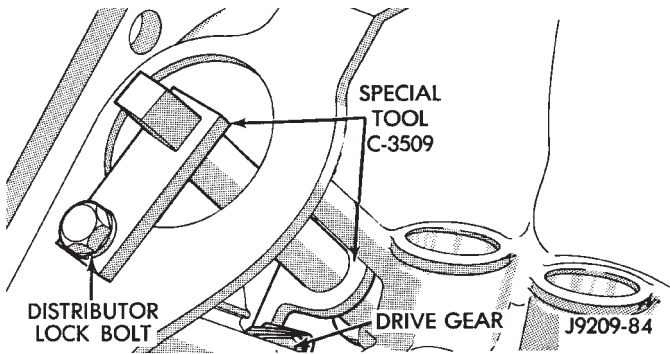

Fig. 40 Camshaft Holding Tool C-3509 (Installed Position)
(2) Install Camshaft Gear Installer Tool C-3509 with tongue back of distributor drive gear (Fig. 40).